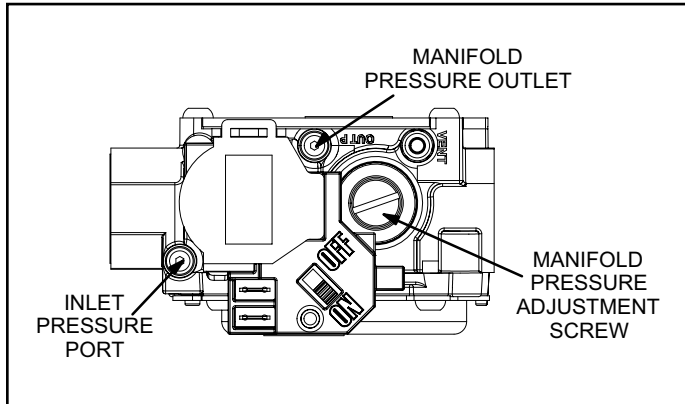

Figure 7. Gas Valve
3. Slide the gas valve switch to the “ON” position (see Figure 7).
- Slide the gas valve switch to the "OFF" position (see Figure 7).
The manifold pressure can be measured by shutting off the gas, removing the pipe plug in the downstream side of the gas valve, and connecting a water manometer or gauge. Under no circumstances should the final manifold pressure vary more than 0.3" w.c. from the above specified pressures. To adjust the regulator, turn the adjusting screw on the regulator clockwise to increase pressure and input or counterclockwise to decrease pressure and input. See Figure 7 to assist in locating the regulator on the gas valve.